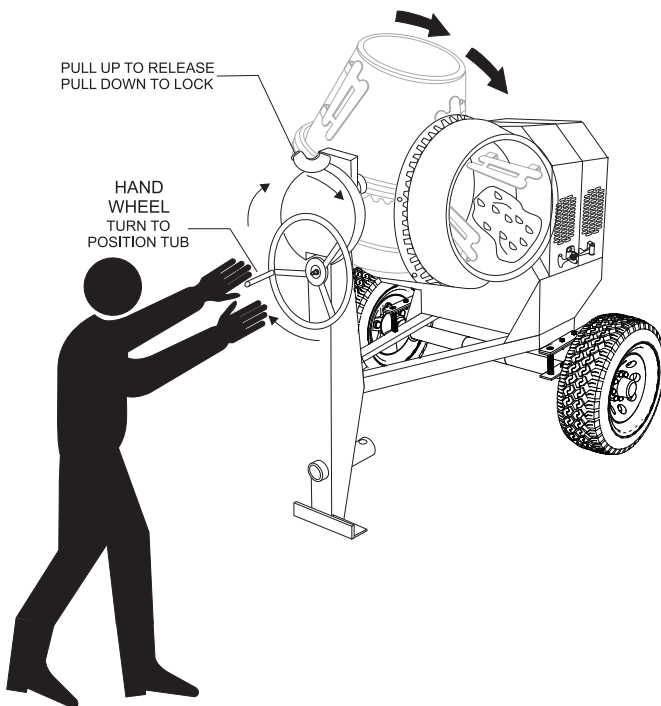

Figure 14. Mixing Drum Positioning
1. To position the drum, make sure the mixer is placed on firm level ground, then **pull up** on the **dump latch** (Figure 14) and turn the **hand wheel** until the drum is at the desired position. Once the drum is at the desired position, **pull down** on the dump latch to lock the drum in position.